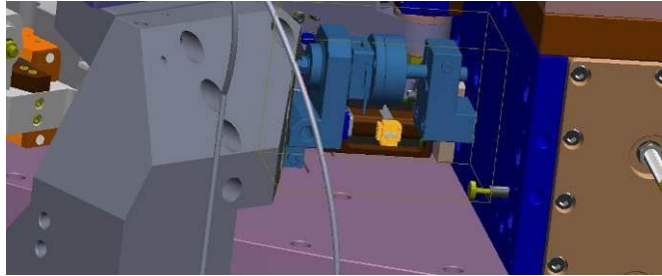

Figure 164: Stage 1-2 Horizontal Position Sensor Installed (highlighted in blue)
(2) 1/4 Vented Washers – UCC WFV-25
- Insert D0902252 Stage 1-2 Horizontal Sensor Target Mount onto D0901521 Stage 1 Left Radial Wall as shown on Figure 164.